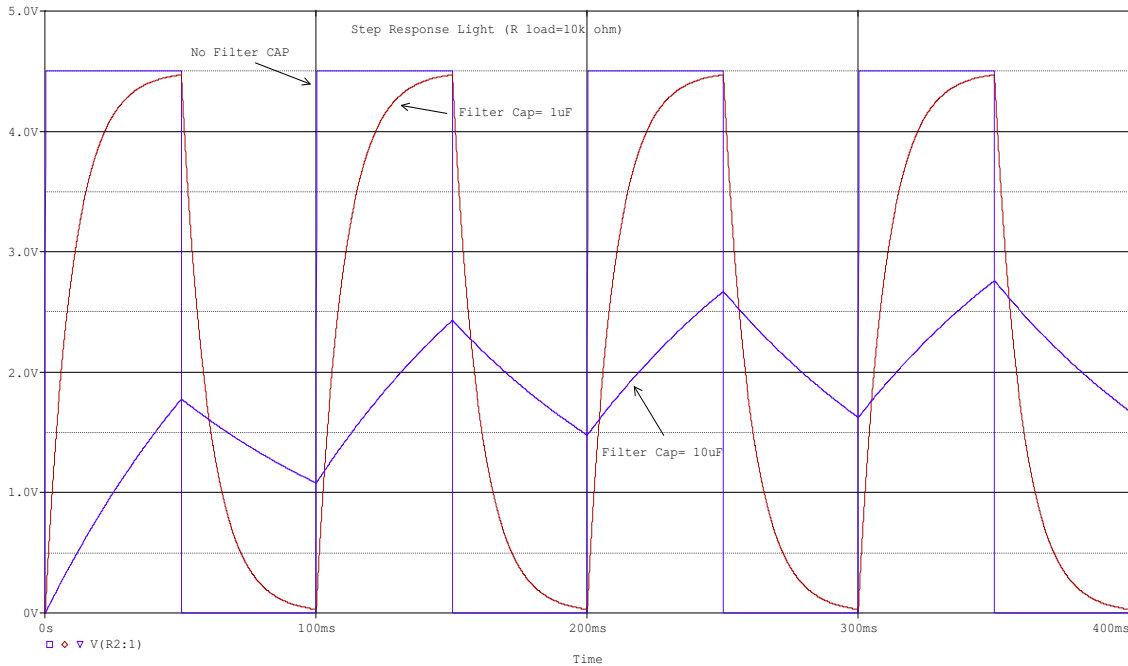

Figure 6. RC Filter Simulation with Step Function of Light
When using this method of RC filtering to “slow” an output reacting to an unwanted change in light level, it should be kept in mind that the sensor will also be slower to a steady state (DC) change in light level as well. This can be seen in the simulation in Figure 6, that for a step change in light level, the sensor will be slow to react to a transition in light levels. It can be concluded from these simulations that a circuit that is very fast and also reduces AC light flicker are opposite in design performance goals. For this reason the application of a light sensor must always be kept in mind when designing an optical system. Please visit <http://www.taosinc.com/productfamily.aspx?sel=ltv> for more information on this family of products.